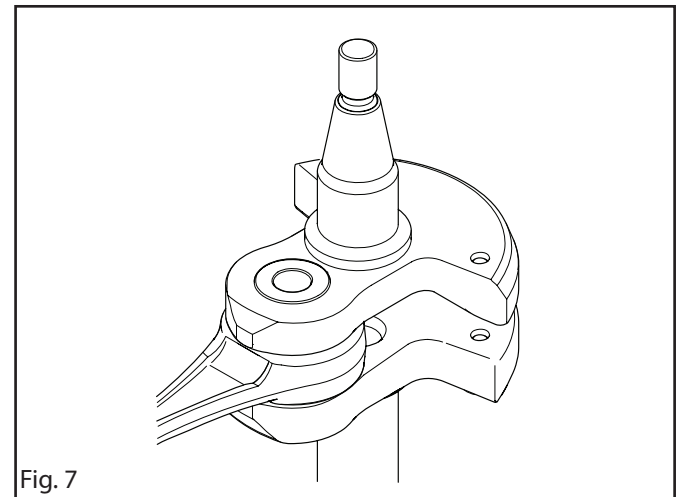

Fig. 7
1. Check that the big-end bearing does not have any radial play. Axial play is acceptable. Also make sure that the big-end bearing does not have any score marks or is discoloured on the sides. See figure 7.